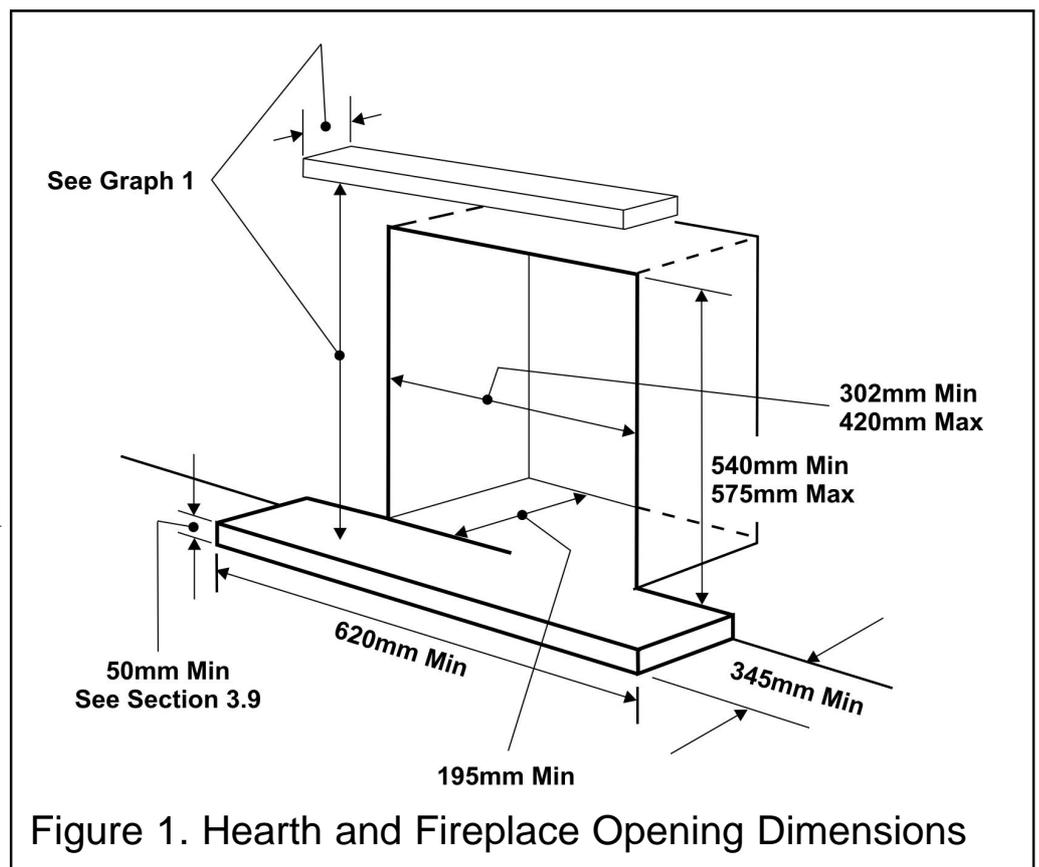

Figure 1. Hearth and Fireplace Opening Dimensions
- **It is recommended that a hearth should be installed as in figure 1.**
3.2.2 To a fireplace incorporating a metal flue box conforming to BS715 with a minimum internal depth of 195mm. Incombustible mineral wool insulation of not less than 100mm thickness must be applied to the top surface of the firebox (See figure 2) and it must stand on a non-combustible hearth. See figure 1.
3.9 The appliance must be mounted behind a non-combustible hearth (N.B. conglomerate marble hearths are considered as non-combustible). The appliance can be fitted to a purpose made proprietary class “O”-150°C surround. The hearth material must be at least 12mm thick. The periphery of the hearth (or fender) should be at least 50mm above floor level to discourage the placing of carpets or rugs over it. The appliance must not stand on combustible materials or carpets (See figure 1).